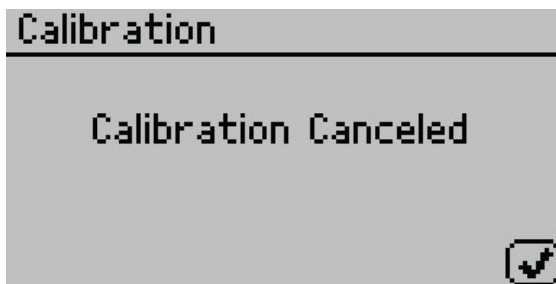

Figure 69 Calibration canceled confirmation
15. If the calibration is canceled at any point, a Calibration Canceled confirmation will appear. Select **OK** to continue (Figure 69).